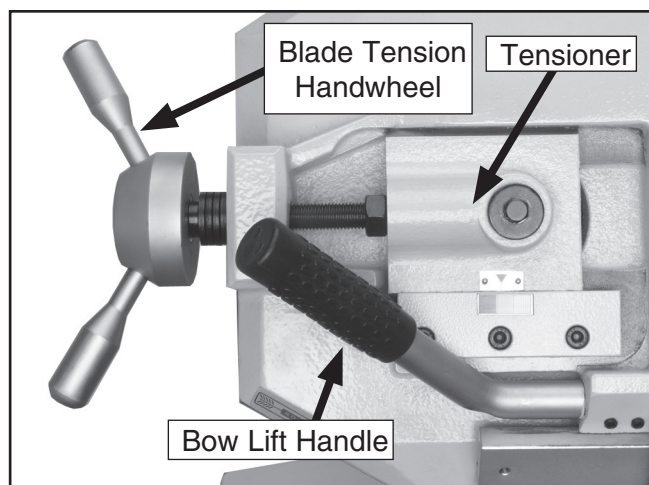

Figure 36. Blade tension handwheel, tensioner, bow lift handle.
- Locate the blade tension handle (**Figure 36**) and add a few drops of oil on the lead screw.